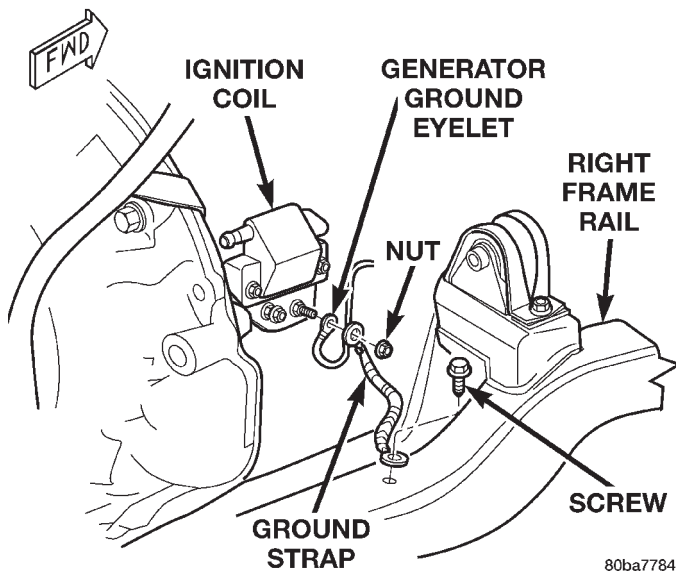
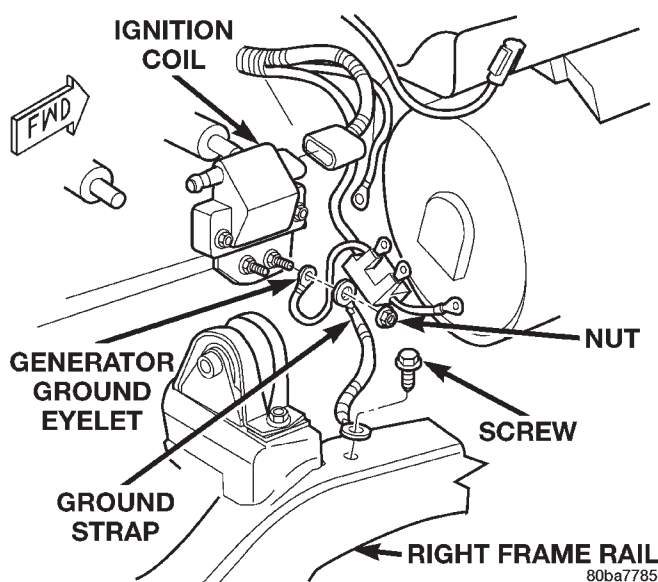

Fig. 11 Engine-To-Frame Ground Strap Remove/Install - 2.5L Engine
Fig. 12 Engine-To-Frame Ground Strap Remove/Install - 4.0L Engine
(1) Remove the nut that secures the engine-to-frame ground strap eyelet to the forward ignition coil mounting stud on the right side of the engine (Fig. 11) or (Fig. 12).